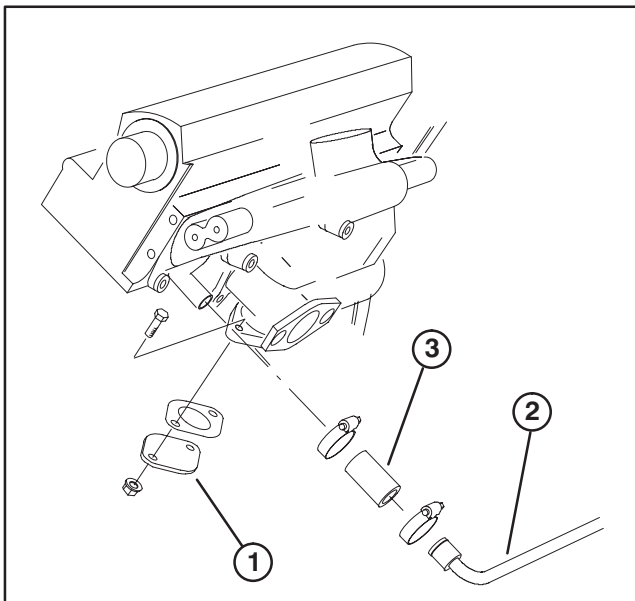

Figure 9
11. Cover bottom exhaust port of manifold with a exhaust plate, gasket, (2) M8x20 capscrews and flangenuts (Fig. 9).
12. Disconnect, remove and replace water return tube and hose with new tube and hose (Fig. 9). Reuse existing hose clamps for installation of new components.